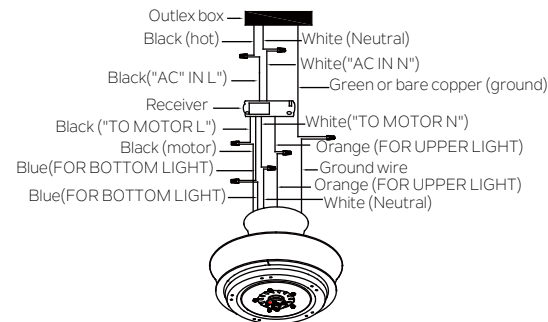

Fig. 14
Step 2. Motor to Receiver Electrical Connections: Connect the BLACK wire from the fan to BLACK wire marked "TO MOTOR L" from the receiver. Connect the WHITE wire from the fan to the WHITE wire marked "TO MOTOR N" from the receiver. Connect the BLUE wire from the fan to the BLUE wire marked "FOR BOTTOM LIGHT" from the receiver. Connect the ORANGE wire from the fan to the ORANGE wire marked "FOR UPPER LIGHT" from the receiver. Secure all the wire connections with the plastic wire nuts provided. (Fig. 14)
Step 3. Remote Receiver to Outlet Box Electrical Connections: Connect the BLACK (hot) wire from the ceiling to the BLACK wire marked “AC in L” from the receiver . Connect the WHITE (neutral) wire from the ceiling to the WHITE wire marked “ AC in N” from the Receiver . Secure the wire connections with the plastic wire nuts provided .(Fig. 14)
Step 4. If your outlet box has a ground wire (green or bare copper) connect it to the fan ground wires : otherwise connect the hanging bracket ground wire to the mounting bracket. Secure the wire connection with a plastic nut provided. After connecting the wires, spread them apart so that the green and white wires are on one side of the outlet box and black,blue and orange wires are on the other side. (Fig. 14)